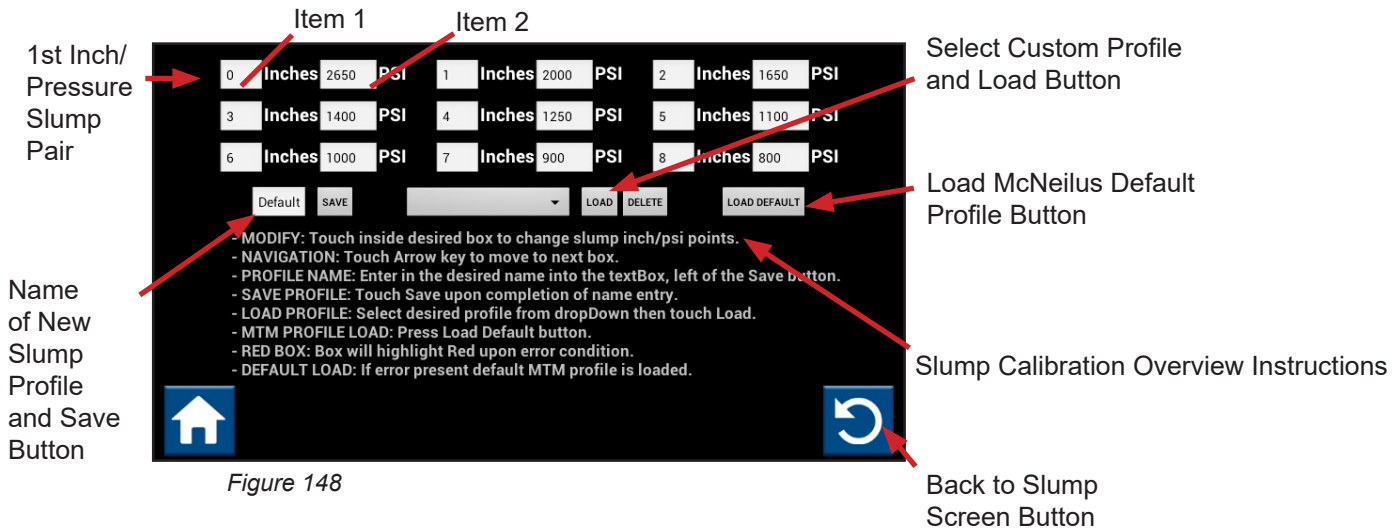

Figure 148
2. Touch the “Inches” (Figure 148, Item 1) or “PSI” (Figure 148, Item 2) text box to bring up the on-screen keyboard to enter in and change the value.
1. Enter the Slump Calibration screen (Figure 148).